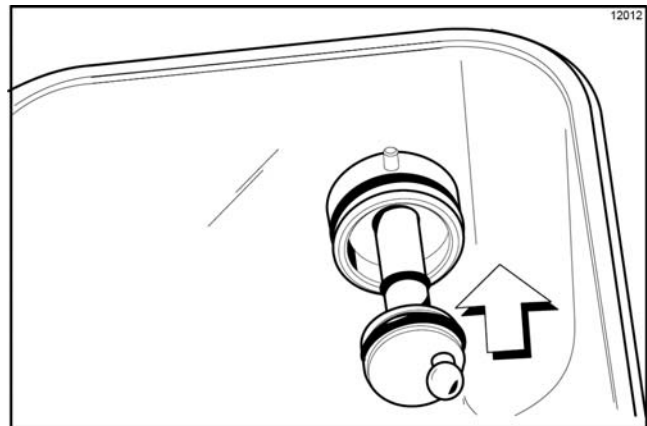

Figure 6-47
14. Install the hex end of the driveshaft into the drive hub at the rear wall of the mix hopper. (See Figure 6-47.)